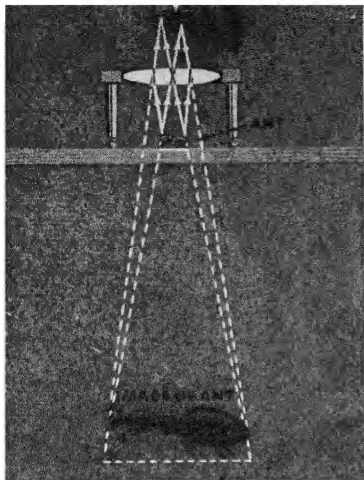

FIG. 381. How light rays travel through a simple magnifier
First, let us examine a hand magnifier. It has a double-convex lens. If it is held close to an object, the object appears larger. If you study Figure 381, you can see how the light rays are bent. The rays are bent in when they pass through the lens. But our eyes see the rays as straight lines; therefore what we see is shown by the broken lines.
1. Make a drawing showing how a simple microscope makes a pin look larger. Use Figure 381 as a guide to follow.